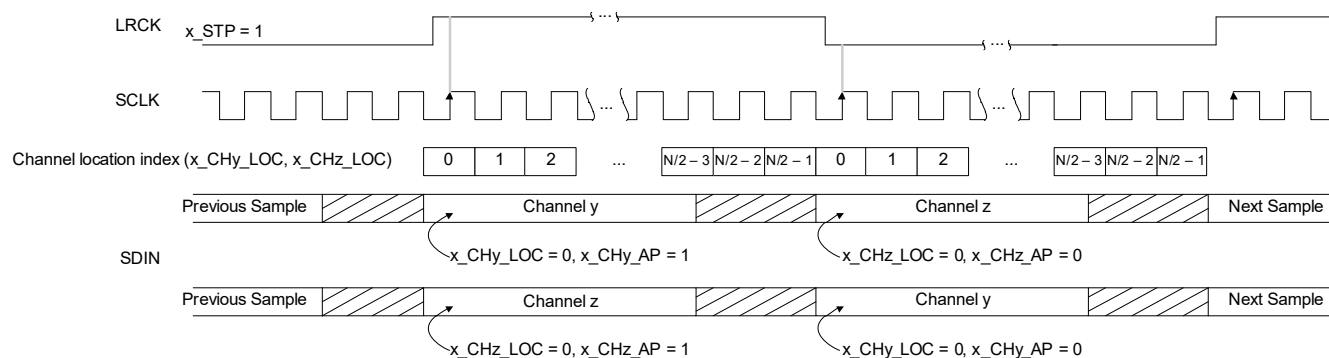

Figure 4-22. Example 50/50 Mode (ASP_STP = 1)
- If ASP_STP = 1, the frame begins when LRCK/FSYNC transitions from low to high. See Fig. 4-22.